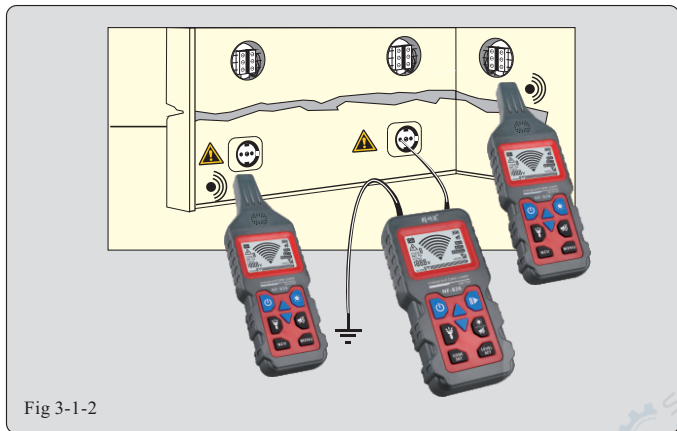

Fig 3-1-2
- ※ Connect transmitter to phase line and protective ground wire according to Fig.3-1-2.